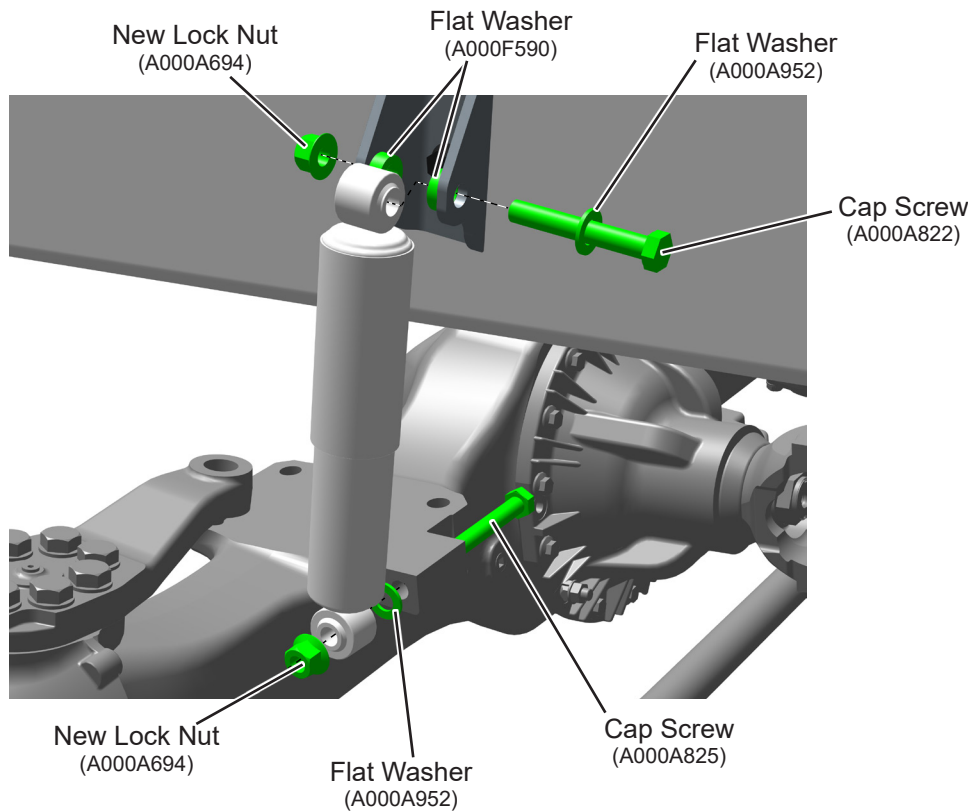

Figure 4 - Shock Absorber Installation
10. Install shock absorber (A001F220) lower eyelet to front axle using 0.75-10 X 6.50" cap screw (A000A825), flat washer (A000A952), and new lock nut (A000A694). Cap screw must be installed from inboard side. See Figure 4. Final tighten mounting hardware to 303 ft. lbs.
11. Install shock absorber (A001F220) upper eyelet into upper mounting bracket using 0.75-10 X 5.00" cap screw (A000A822), flat washer (A000A952), two spacer washers (A000F590), and new lock nut (A000A694). See Figure 4. Final tighten mounting hardware to 303 ft. lbs.